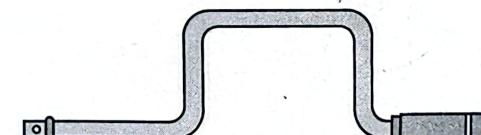

Fig. 1.32. (l) Speed handle.
**13. Torque wrench :** A torque wrench is a tool, which is used to apply a specific amount of torque to a fastener such as a nut, bolt etc. It is usually in the form of a socket wrench with an indicating scale or an internal mechanism which will indicate as by 'clicking', when a specific torque value has been reached during application. [See Fig. 1.32 (m)]